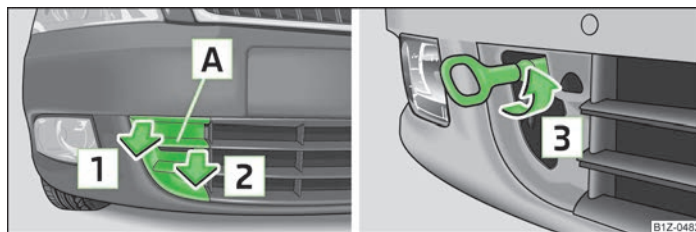

Fig. 155 Front bumper: protective grille/installing the towing eye
- Insert your fingers into opening **A** » Fig. 155.
- Manually insert the towing eye in the direction of arrow **3** » Fig. 155 on page 187 until the stop, tighten. For tightening purposes, we recommend, for example, using the wheel wrench, towing eye from another vehicle or a similar object that can be pushed through the eye.